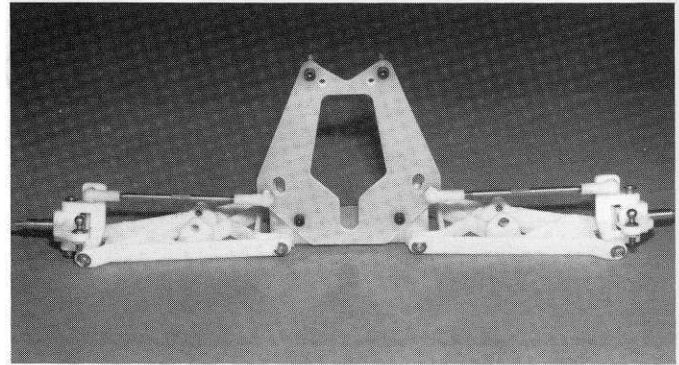

Fig. 15
□ Fig. 15 Use a pliers or needle nose pliers and snap the ball ends onto the steel balls as shown.